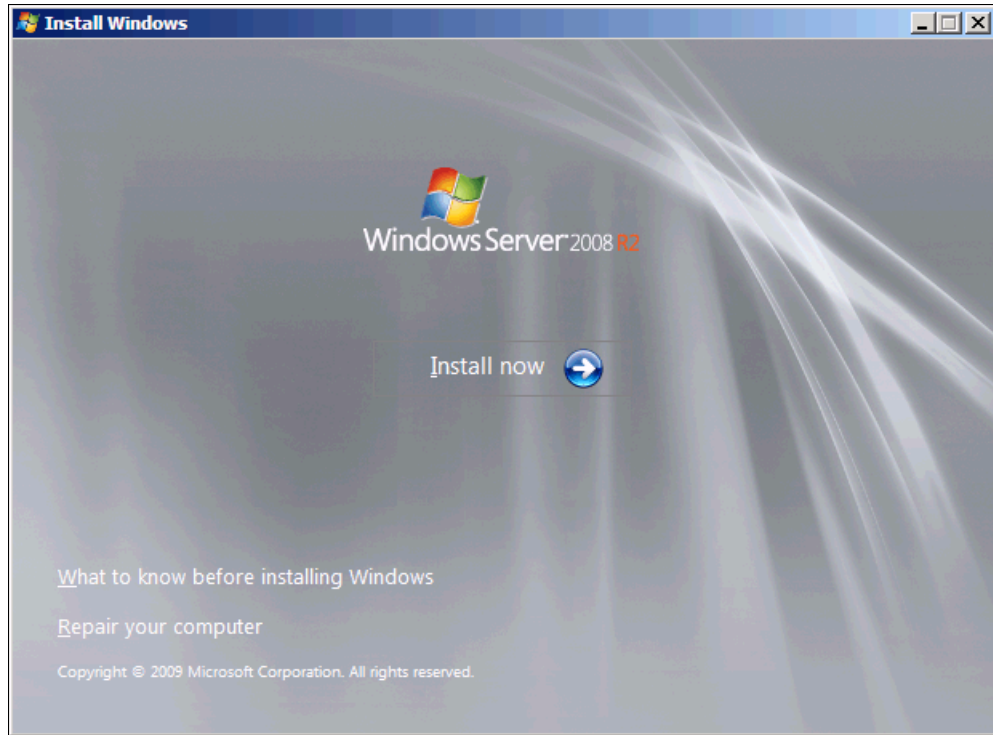

Figure 9-128 Clicking Install now in the Windows installation window
8. In the Windows installation window (Figure 9-128), click **Install now**.